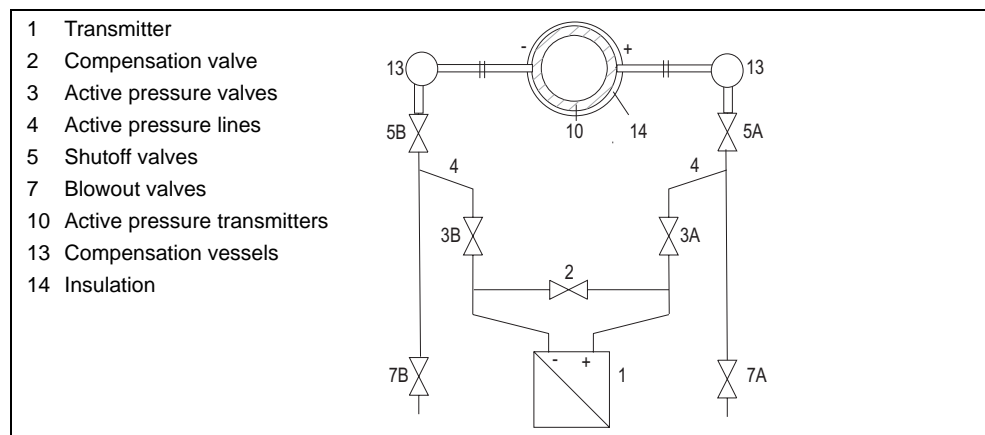

Figure 36 Measuring vapor
1. Open both shutoff valves (see (5) Figure 36) at the pressure taps
2. Open the compensation valve (2).
3. Wait until the vapor in the active pressure lines (4) and in the compensation vessels (13) has condensed.
4. Open the active pressure valve (3A) and the vent valve at the high pressure chamber of the transmitter (1) slightly until air-free condensate emerges.
6. Open the vent valve at the low pressure chamber of the transmitter (1) slightly until air-free condensate emerges.
9. Close the vent valve at the low pressure chamber of the transmitter (1).